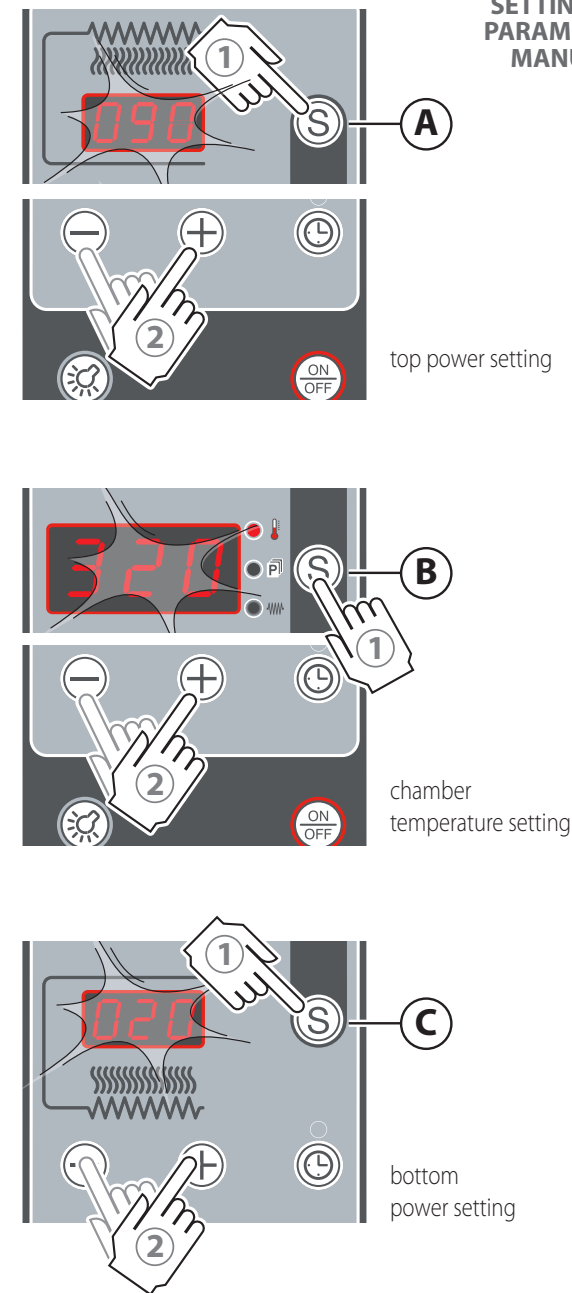

Fig.17.
See ► chapter “**Setting parameters in manual mode**” on page 15 and ► Fig.17.
► **Fig.17.**
If, during cooking, it is necessary to modify the parameters of the displayed program **(B)**, act as explained in ► Fig.17.